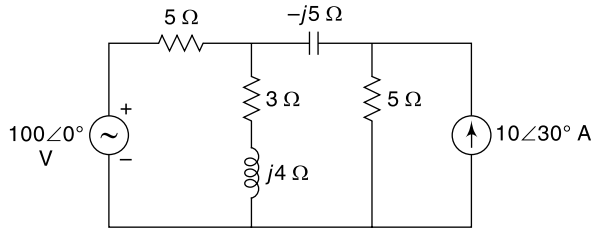

Fig. 6.3 Circuit of Ex. 6.3
6.3 Find the current through the capacitor of $(-j5 \Omega)$ reactance in Fig. 6.3 using superposition theorem.